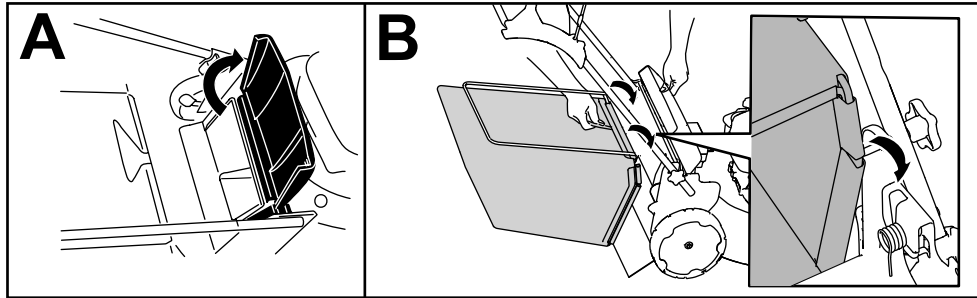

Figure 16
1. Raise and hold up the rear deflector (A of Figure 16).
2. Install the grass bag, ensuring that the pins on the bag rest in the slots on the handle bracket (B of Figure 16).